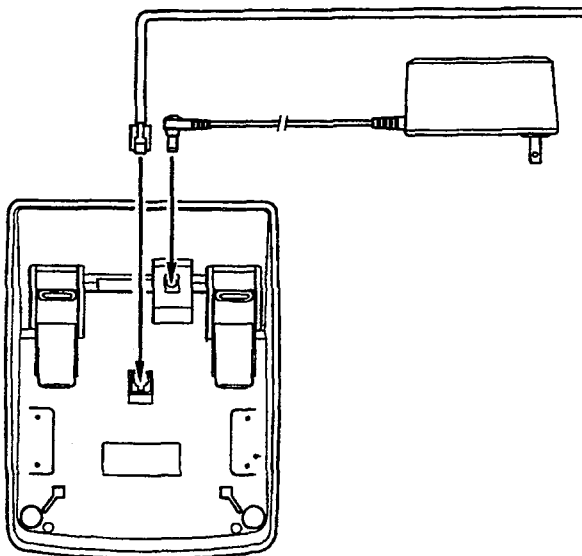

Figure 4-10 Connecting an Attendant Add-On Console to the System
2. Lead the cord out through the cord groove. Refer to Figure 4-10 - Connecting an Attendant Add-On Console to the System.